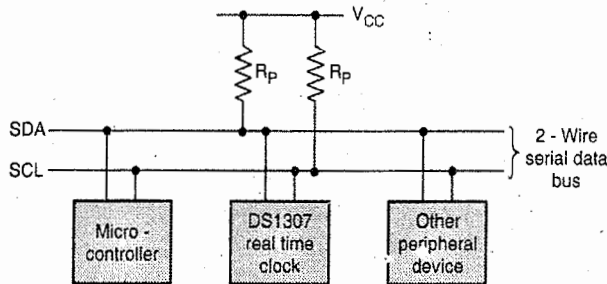

Fig. 14.8.1 : Typical 2 wire bus configuration
- The DS1307 behaves like a slave on the 2-wire bus. Fig 14.8.1 shows a typical bus configuration using this 2-wire protocol.